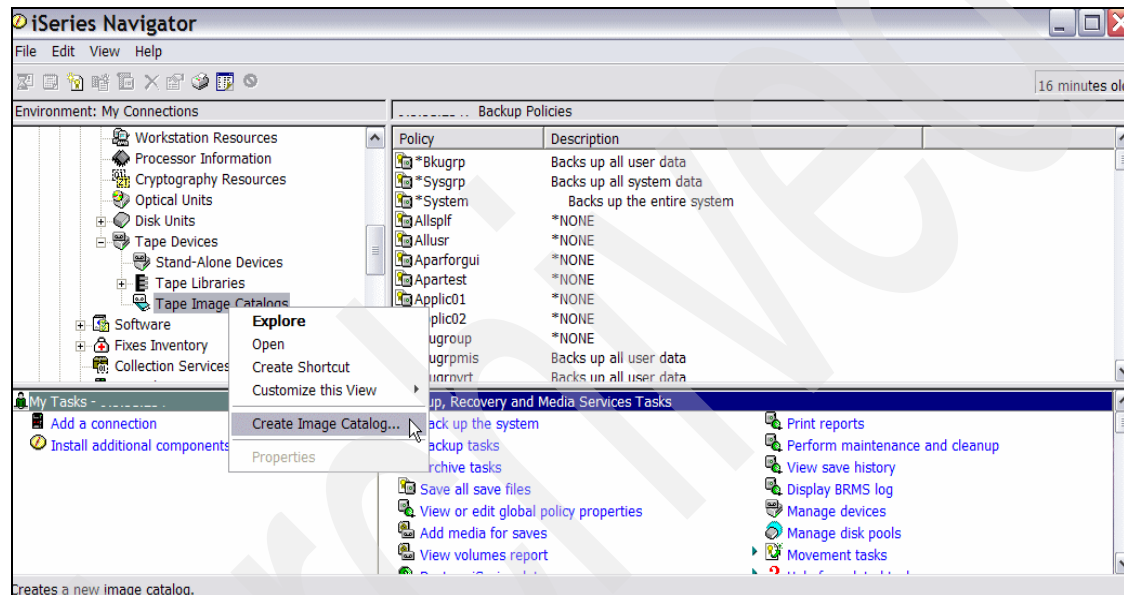

Figure 5-1 Create new image catalog
2. Right-click **Tape Image catalogs** and select **Create Image catalog**, as shown in Figure 5-1.